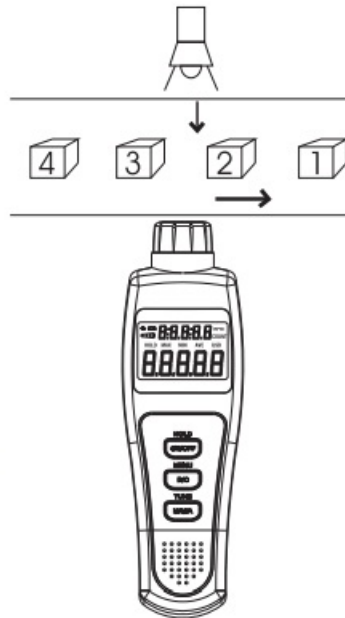

Figure 5
Receiving Light Source Outside (See Figure 5)
3. Locate the Meter, objects under counts and light source as shown in Figure 5